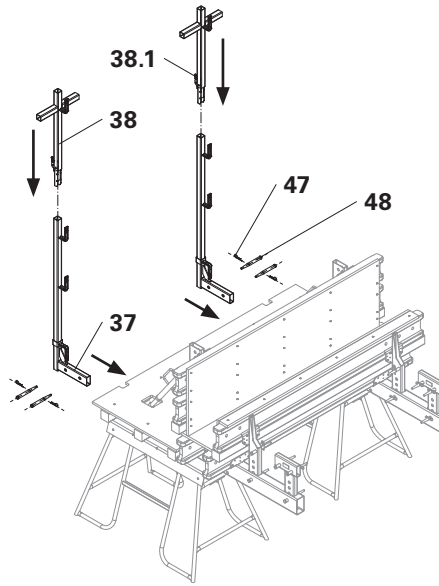

Fig. C1.06
1. Insert the Post Connector Edge Beam VD (37) in the Platform Beam (34).
2. Install Post Connector Edge Beam VD (37) with 2x Fitting Pin \varnothing 21 x 120 (48) each and secure with Cotter Pin 4/1 (47).
3. Insert Post Extension VD (38) in the Post Connector Edge Beam VD (37) until the locking wedge (38.1) is automatically secured. (Fig. C1.06)